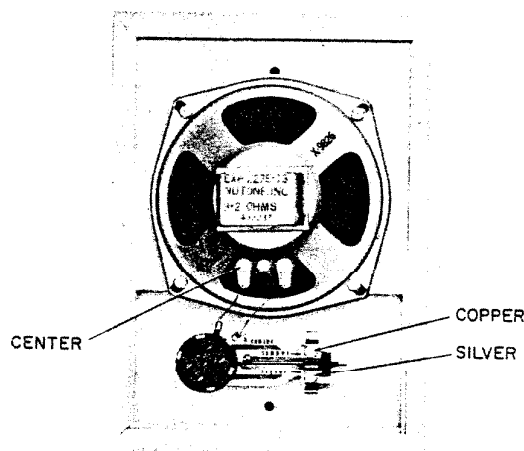

Fig. 7. Speaker connections for Model 2027 remote station.
1. Connect the previously installed three-conductor wire to the screw terminals provided on the rear of the remote speaker assembly (Fig. 7).